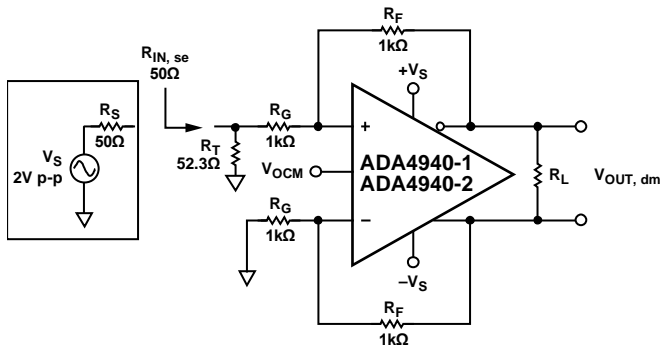

Figure 59. Adding Termination Resistor R_T
3. Figure 59 shows that the effective R_G in the upper feedback loop is now greater than the R_G in the lower loop due to the addition of the termination resistors. To compensate for the imbalance of the gain resistors, add a correction resistor (R_{TS}) in series with R_G in the lower loop. R_{TS} is the Thevenin equivalent of the source resistance, R_S , and the termination resistance, R_T , and is equal to $R_S || R_T$.